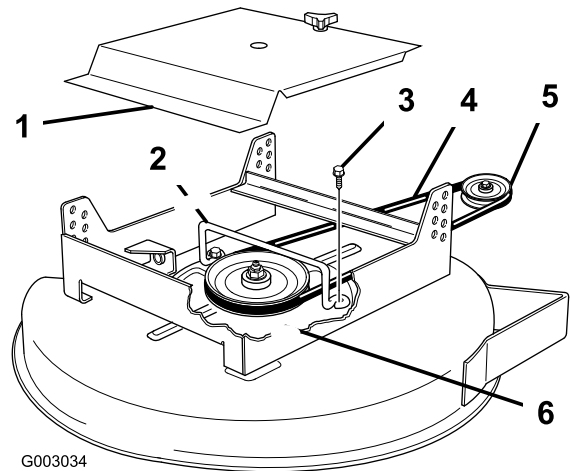

Figure 46
4. Remove the two flange-head bolts holding the belt guide to the top of the mower and remove the belt guide (Figure 46).
6. Install the replacement drive belt around the drive pulley on the traction unit and the spindle pulley (Figure 46).
7. Install the belt guide on the mower with the two flange-head bolts. Ensure that the formed loops face toward the rear of the mower (Figure 46).
10. Install the mower cover onto the cutting unit, then tighten the hand knob (Figure 46).